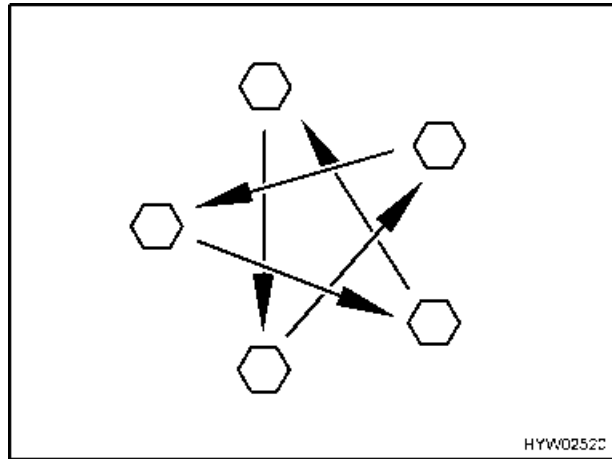

Fig. 101 Tighten the wheel bolts cross-wise
- Check regularly that the wheel nuts are firmly seated. Re-tighten the wheel bolts of a changed wheel cross-wise (Fig. 101) after 50 km (30 miles). For tightening torque see section Tightening Torque.
- ▶ Tighten the wheel bolts cross-wise (Fig. 101). For tightening torque see section Tightening Torque.